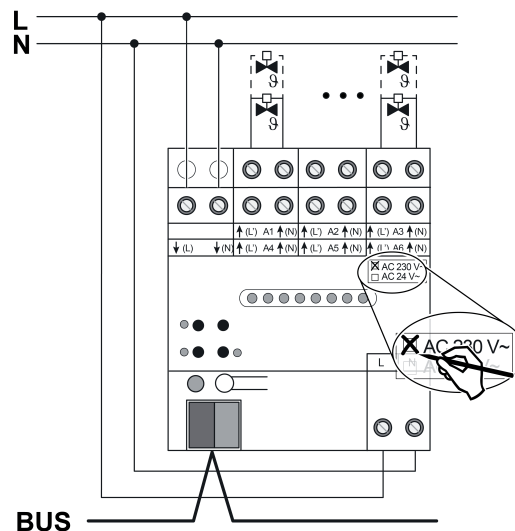

Figure 3: Connection of actuators 230 V
- Connect the AC 230 V valve drives according to the connection diagram (figure 3).